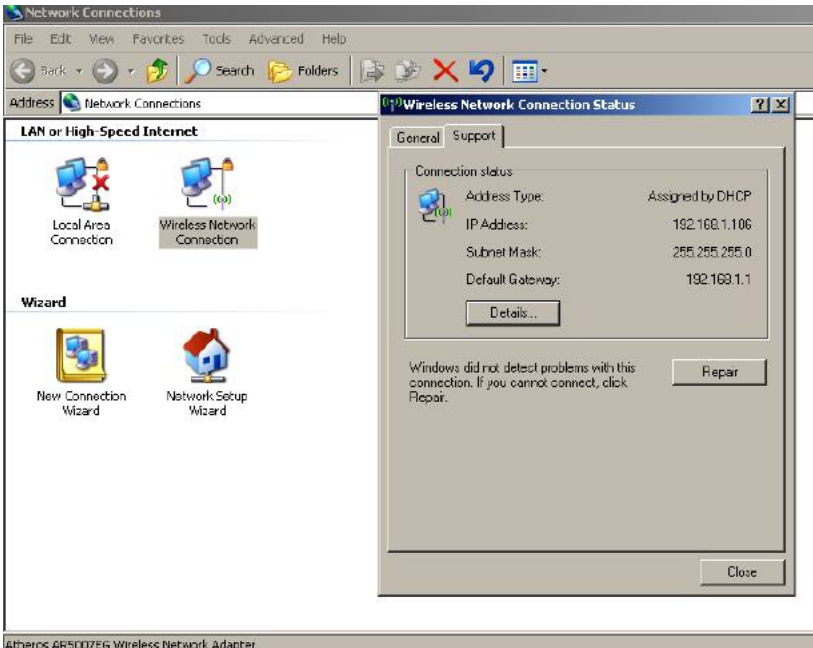

Figure 6-3. *The network connections panel in Windows.*
1. Click on Network Connections. (See Figure 6-3.)